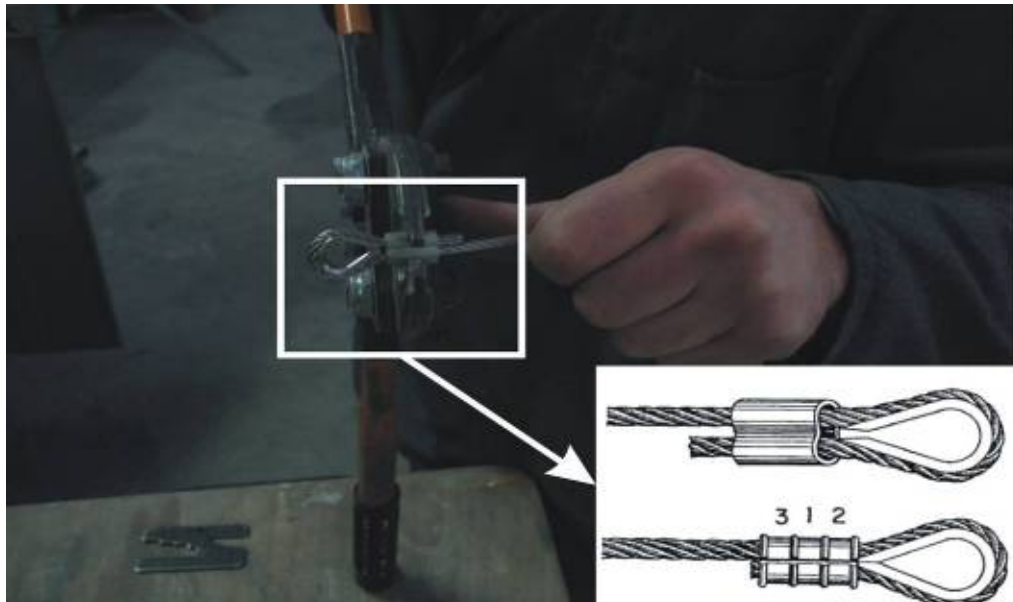

Fig. 20-00-5
B. Crimping of Rudder Cables (Fig. 20-00-5)
3	Make three compressions on the sleeve in order shown on Fig. 20-00-5